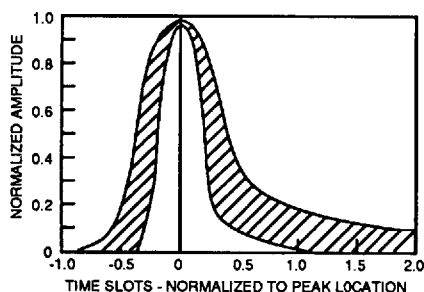
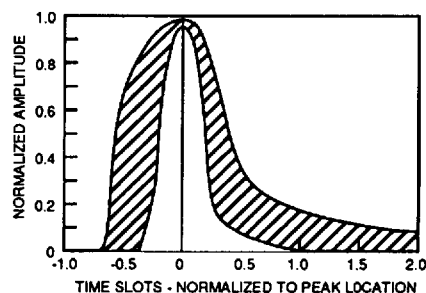

Figure 4. DSX-3 Isolated Pulse Template for ACCUNET T45 Standards
Figure 5. DSX-3 Isolated Pulse Template for G.703 Standards
template requirements exist: the ACCUNET T45 pulse template (see Table 4 and Figure 4) and the G.703 pulse template (see Table 5 and Figure 5). Tables 4 and 5 give the associated boundary equations for the templates. The XR-T7295 correctly transmitted signal that meets one of these templates at the cross-connect.
Pulse Shape	An isolated pulse must fit the template in Figure 4 or 5.* The pulse amplitude may be scaled by a constant factor to fit the template. The pulse amplitude must be between 0.36 Vpk and 0.85 Vpk, measured at the center of the pulse.
* The pulse template proposed by G.703 standards is shown in Figure 5 and specified in Table 5. The proposed G.703 standards further state that the voltage in a time slot containing a 0 must not exceed \pm 5% of the peak pulse amplitude, except for the residue of preceding pulses.
Table 4. DSX-3 Pulse Template Boundaries for ACCUNET T45 Standards (See Figure 4.)
Table 5. DSX-3 Pulse Template Boundaries for G.703 Standards (See Figure 5.)